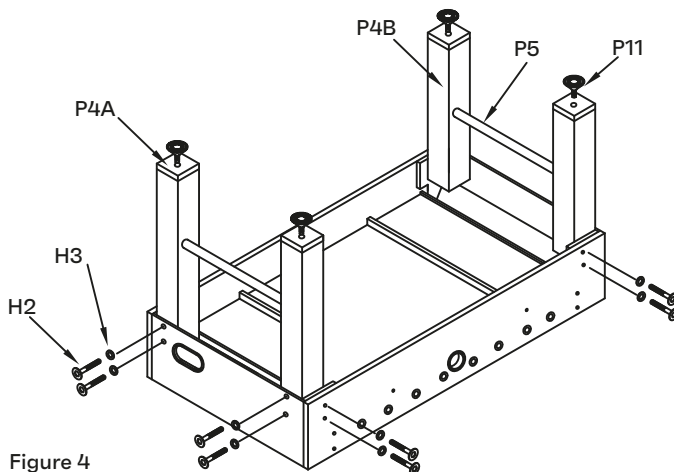

Figure 4
4. Insert cross bar P5 into predrilled leg holes. Assemble each leg P4A and P4B by using four bolts H2, with four flat black washers H3. Attach the leg levelers P11 as shown in figure 4.